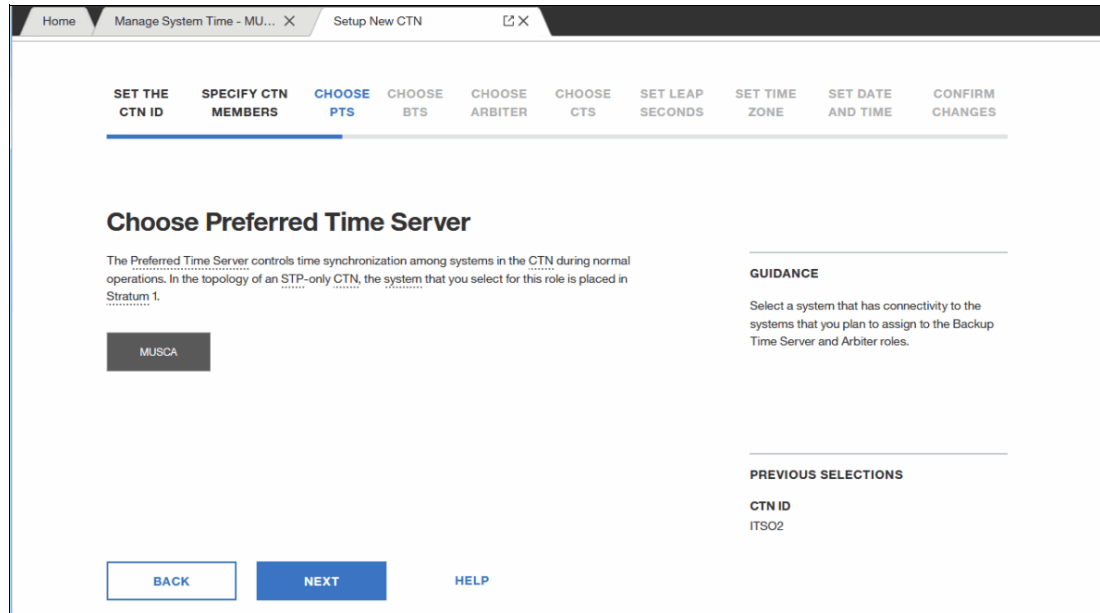

Figure 8-36 Choose Preferred Time Server window
- The Choose Preferred Time Server window opens. Select the CPC name for PTS (see Figure 8-36).